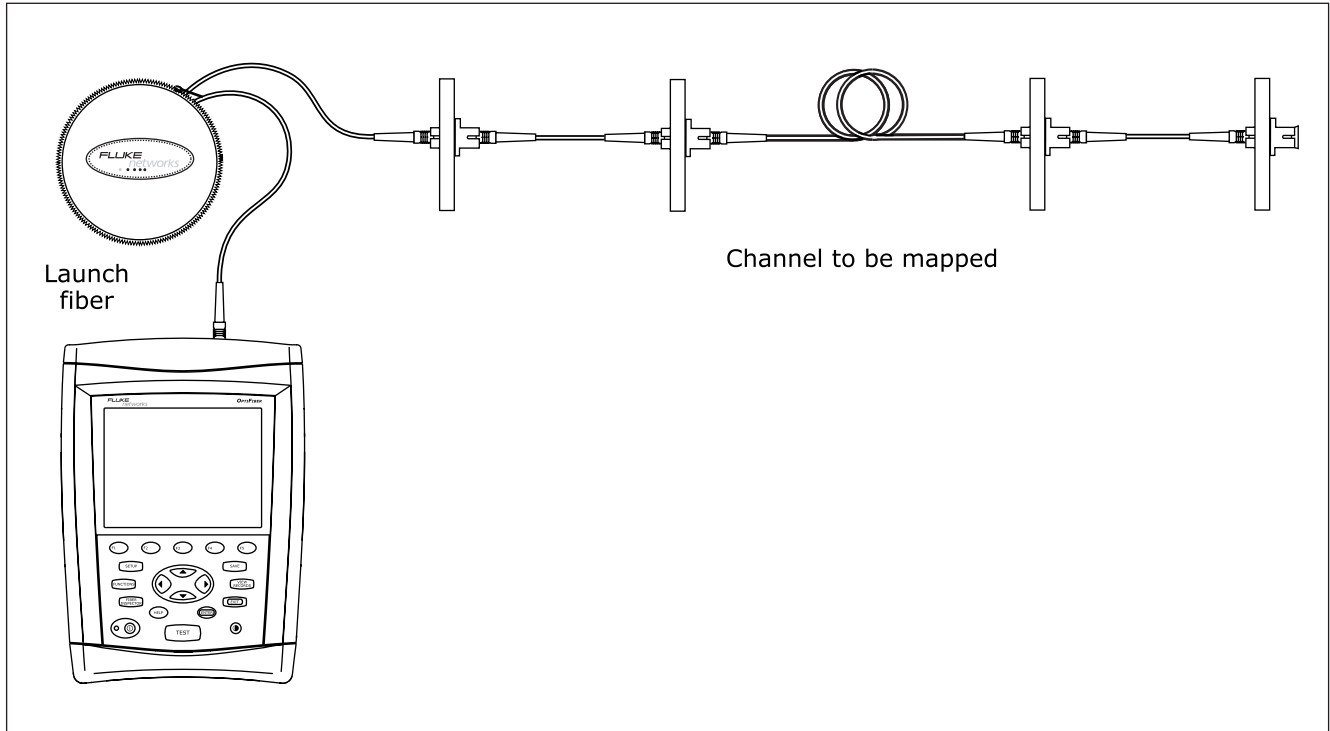

Figure 4-2. ChannelMap Test Connections
6. Connect the launch fiber to the OTDR port and the channel to be mapped, as shown in Figure 4-2.